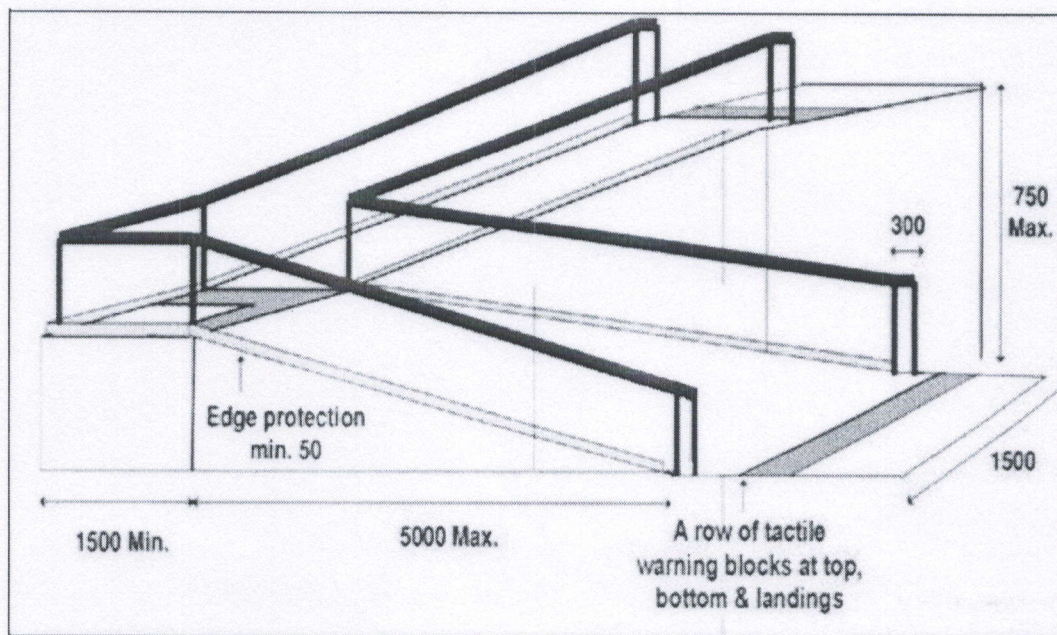

Figure 9.1: L-shape ramp with landing
- Be provided at regular intervals of not more than 9000 mm of every horizontal run as shown in the figure 9.1;